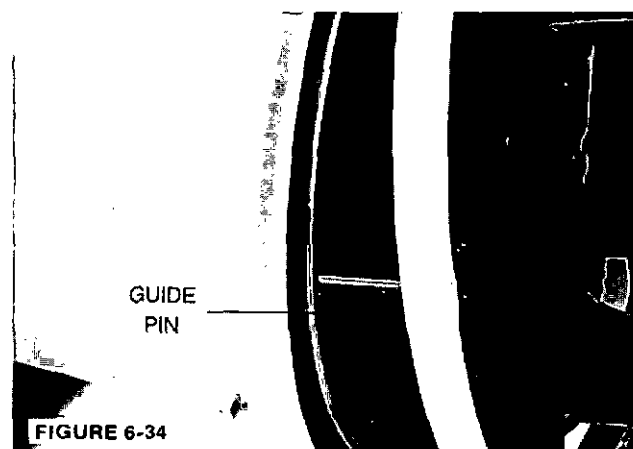

FIGURE 6-34
1. Install two guide pins (threaded rod can be used) into the generator side of the end bracket mounting holes. Align the guide pins with the holes in the generator frame and slide the bracket onto the frame. (Figure 6-34.) Install bracket mounting capscrews.